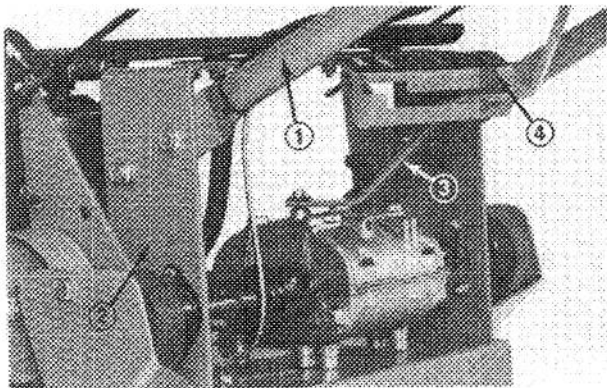

Figure 1
1. Align upper handle mounting holes with desired mounting holes in frame and secure each side with (2) 3/8-16x1" lg. flange capscrews and flangenuts (Fig. 1).
1. Insert shift lever thru slot in control panel and align mounting hole in lever with mounting shaft on transmission. Do not remove rubber washer on top of transmission. Secure lever to transmission with 1/4-28x3/4" lg. capscrew, lockwasher and plain washer. Torque capscrew to 100-125 in. lb. (Fig. 1).